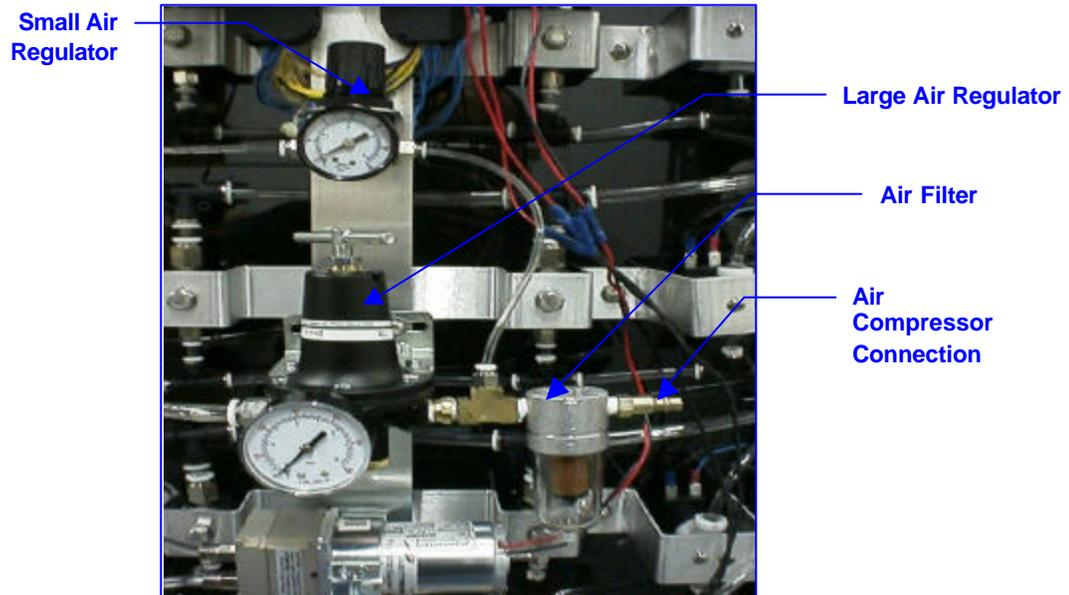

Figure 8: Location of Fluid/Air Controls (A)
Fluid/Air Controls are located on the back of the MT3000 below the Integrated Electronic Controller (see page 3 for IEC location). These controls are used to set the amount of solution and air applied during the misting process. See figures 8 & 9 for location of fluid/air controls and table 3 for their descriptions.
Step 1. Loosen lock nut on top of the large regulator to adjust air flow (see figure 8, page 12, for large air regulator location).
Machine “squirts” out solution in stream without mist.	<ul style="list-style-type: none"> ◆ Check air pressure on the large and small regulator gauges located on the back of the MT3000™ (see figure 8 on page 12 for locations). The small gauge should read 40 psi. The large gauge should read 37 psi while spraying. If air pressures are lower, check air compressor connections and its circuit breaker. Also, see page 16 on how to adjust the large air regulator air flow. ◆ Bleed any water out of the air compressor tank. Refer to the air compressor's owner's manual for instructions.
- ◆ Drain air filter periodically (see figure 8, page 12, for air filter location). To drain the air filter either (depending on the type of air filter installed) push up on the pin (located on the bottom of the air filter) and hold until all the water drains; or loosen (with your thumb) the screw (located on the bottom of the air filter) until all the water drains, then tighten the screw.